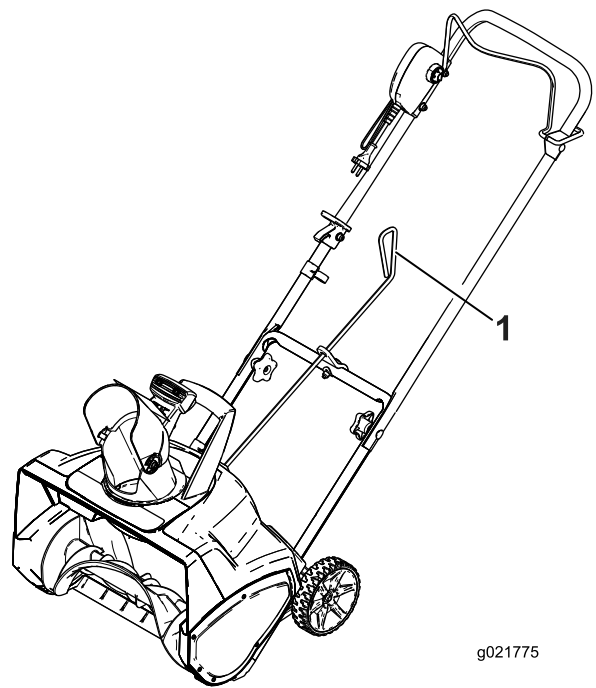
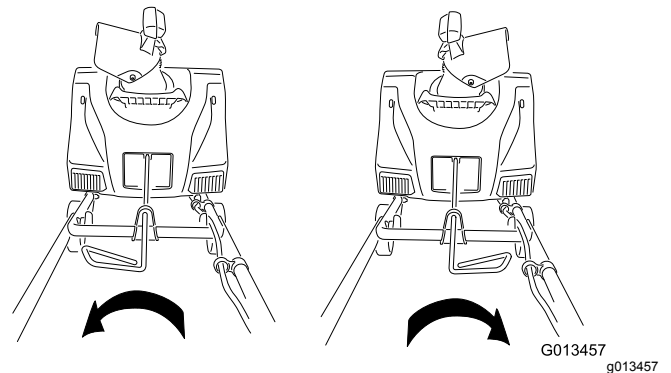

Figure 6
Figure 7
4. Ensure that the handle of the chute control rod points upward (Figure 6), and insert the rod into the keyed hole in the back of the housing.
6. Move the handle on the chute control rod to ensure that it moves in the same direction as the chute (Figure 7).
To adjust the discharge chute, move the handle on the chute control rod in the direction that you wish to direct the snow stream (Figure 6 and Figure 7).